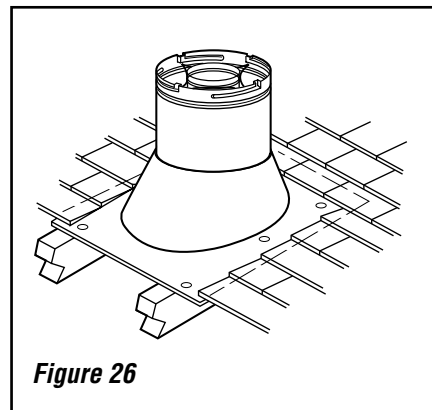

Figure 26
I. Install the roof flashing - Extend the vent sections through the roof structure. Install the roof flashing over the vent section and position such that the vent column rises vertically (use carpenter's level) (**Figure 26**). Nail along perimeter to secure flashing or adjust roofing to overlap the flashing edges at top and sides only and trim where necessary. Seal the top and both sides of the flashing with waterproof caulking.